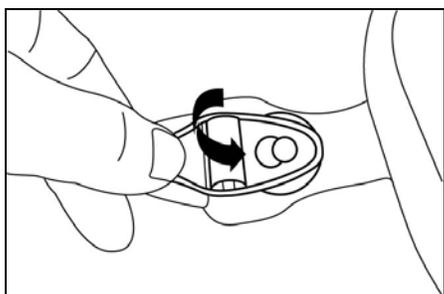

Fig. 23
1. Remove existing head harness by unsnapping each buckle from the buttons. (Fig. 23)